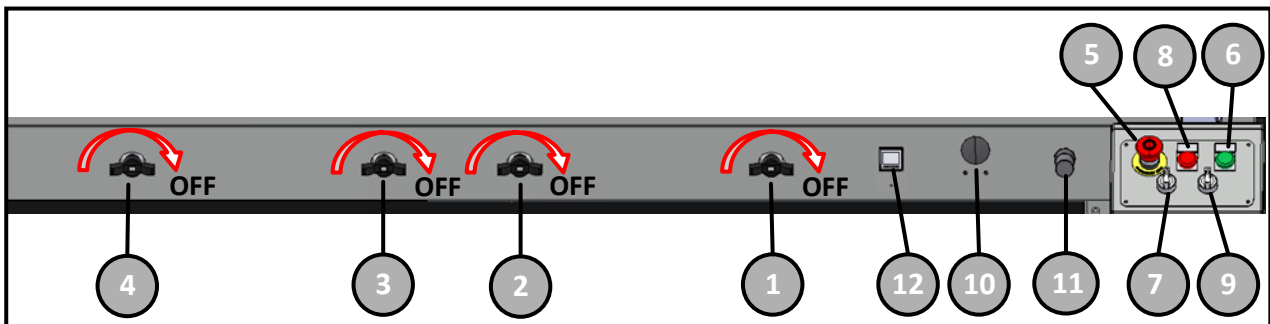

Figure 4-1
- Insert the power by pressing the Machine Power button (6), Figure 4-1
***Note:** If the button does not light up, check if the emergency button -Figure 4-1 - was pressed down, if so disarm it (see par.4) and repeat the pressure of the Machine Power key.*
- Start the vacuum pump using the selector (7) and open the suction using the selector (9) Figure 4-1.
- Open vacuum zones (1) (2) (3) (4) according to the material dimension Figure 4-1.
- Press the Machine Power button (6), Figure 4-1